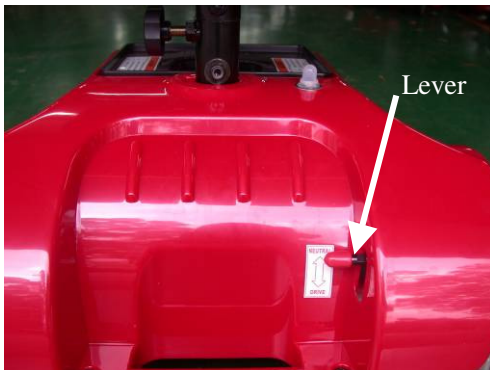

Fig 4.1
- ◆ Engaged mode (Fig. 4.1): Push the lever completely and the scooter can be driven by motor power.